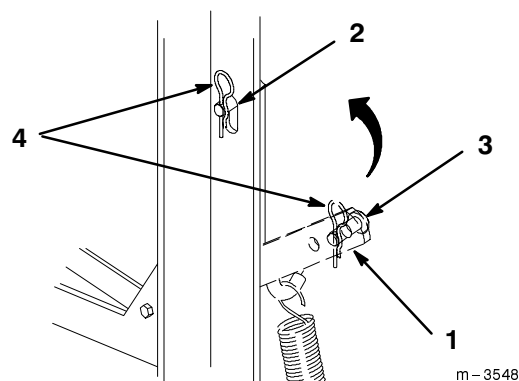

Figure 39
2. Remove hairpin cotter and clevis pin from idler arm (Fig. 39).
3. Pull up on the spring loaded idler arm, behind blower on lefthand side of unit, to relax pressure on blower belt (Fig. 39).